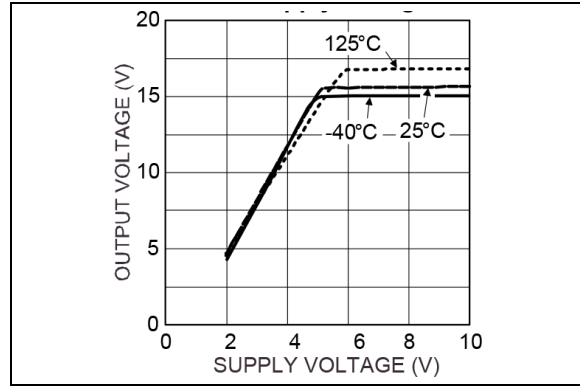

FIGURE 2-4: Gate Output Voltage vs. Supply Voltage.
The MIC5018 is designed to drive N-channel enhancement type MOSFETs. The gate output (G) of the MIC5018 provides a voltage, referenced to ground, that is greater than the supply voltage. Refer to Figure 2-4.
V_G is determined from the driver supply voltage using Figure 2-4.